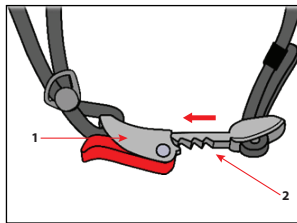
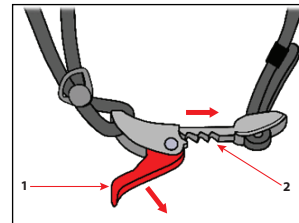

Fig. 4
Fig. 5
To fasten the strap, insert the strap element (1) into the clip (2) (Fig.4). To unfasten the strap, pull the clip (1) and release the strap element (2) from the clip. (Fig.5)